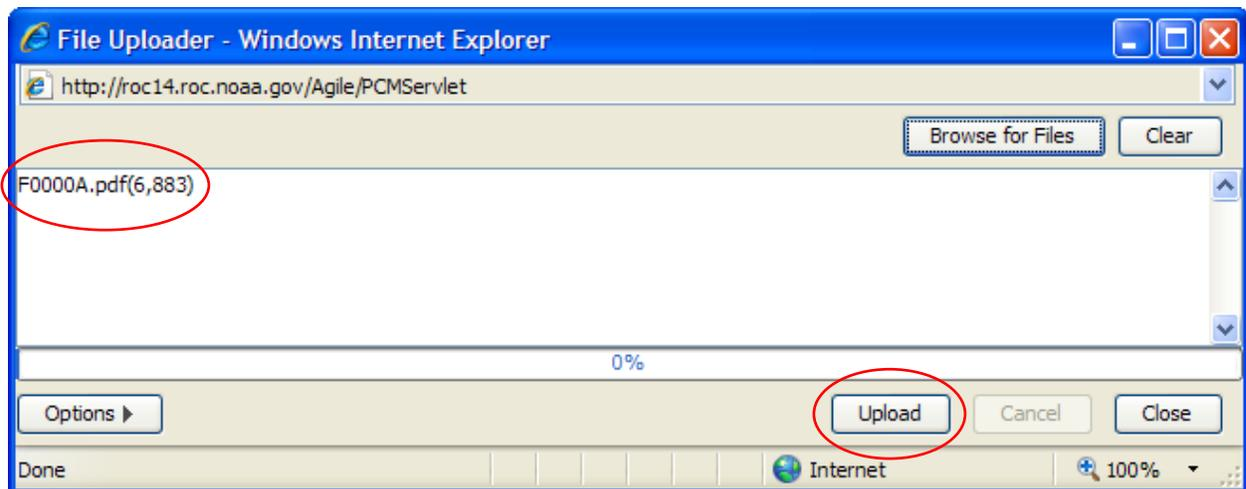

Figure 45: File added to File Uploader and Upload button location.
- l. The selected file will be added to the **File Uploader** dialog box (Figure 45). Use the Browse for Files button to add each attachment.
- m. When all attachments have been added to the File Uploader, click **Upload** (Figure 45).